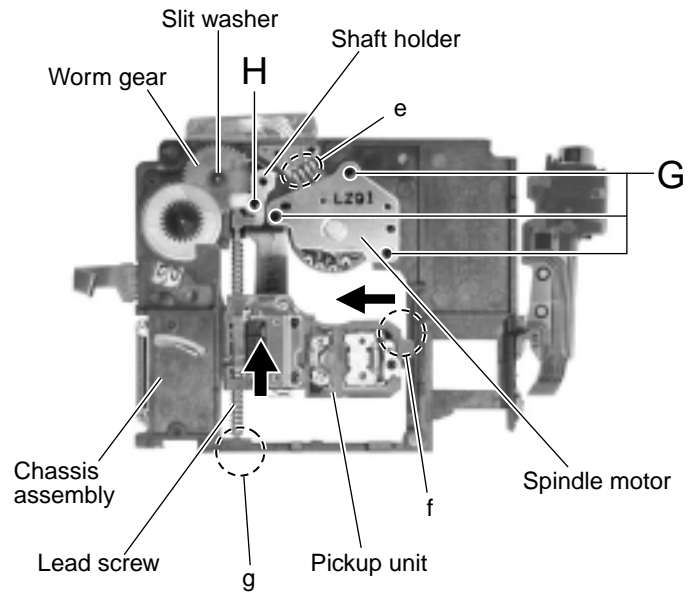

Fig.9
■ Removing the spindle motor (See Fig.9)
■ Removing the pickup unit (See Fig.9)